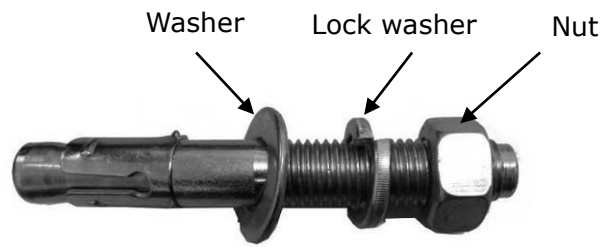

Fig.14
1. Prepare anchor bolts (See Fig. 14).